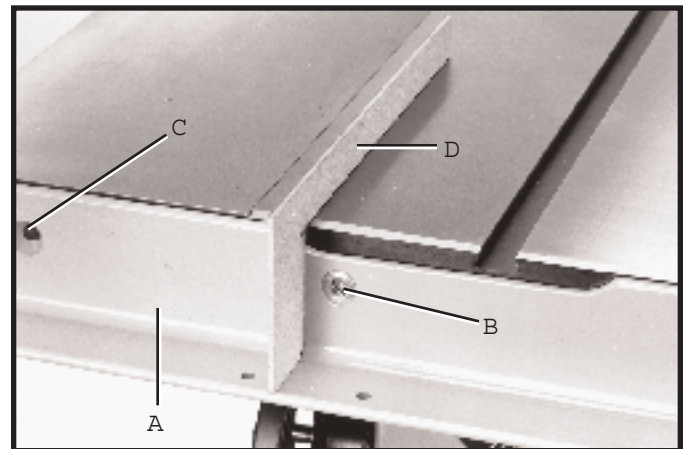
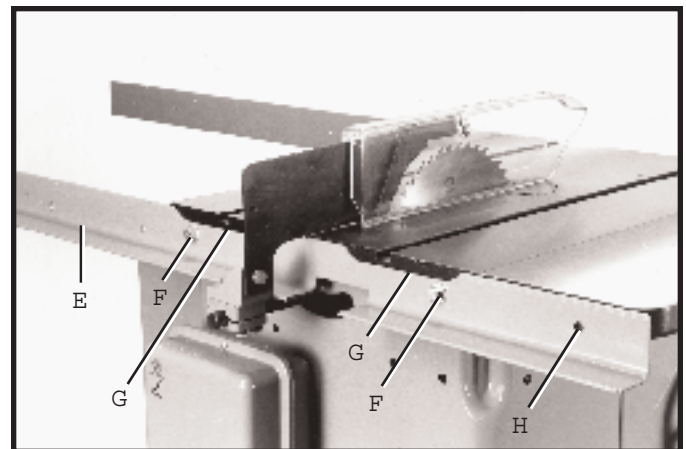

Fig. 7
Fig. 8
4. Assemble rear rail (E) Fig. 8, to rear of saw table using the two 3/8-24 x 1-1/4 long hex head screws (F), 7/8 flat washers and lockwashers as shown. NOTE: When mounting fence to Unisaws, the two screws (F) are threaded into the threaded holes in the saw table, as shown. When mounting fence to 10 Tilting Arbor Saws or 10 Contractor's Saws, through holes are provided instead of threaded holes on the rear edge of the saw table. In this case the rear rail (E) is fastened to the table with the two hex head screws (F) and the flat washers, lockwashers and hex nuts will be inside the rear edge of the saw table.
5. Make certain top edge of rail (E) Fig. 8 is below table surface and that top edge of cut-outs (G) are below miter gage slots before tightening screws (F).
6. If the table saw is equipped with a left hand sheet metal extension wing, fasten the front rail (A) Fig. 7, to the sheet metal extension wing with the 1-1/4 long flat head Phillips screw through hole (C) Fig. 7, in the front rail and through the slot in the sheet metal extension wing. Fasten the rear rail (E) Fig. 8, to the sheet metal extension wing with the 1-1/4 long hex head screw through hole (H) Fig. 8, in the rear rail and through the slot in the sheet metal extension wing. Fasten both the front and rear rails in place using the flat washers, lock washers and hex nuts supplied.